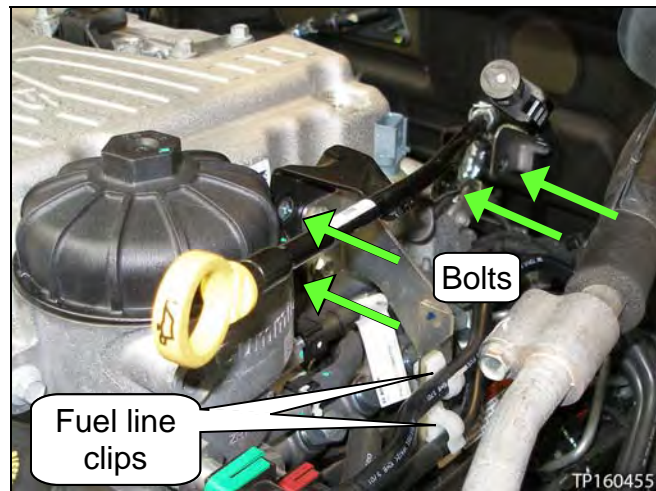

Figure 19
b. Unclip the fuel lines from their clips (see Figure 19).
c. Remove the four (4) bolts where shown in Figure 19.